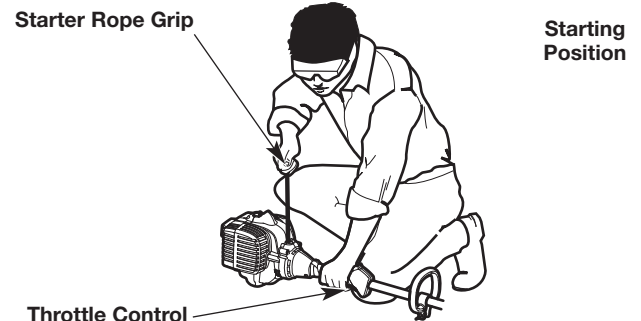

Fig. 11
**WARNING:** Avoid accidentally starting the unit. To avoid serious injury, the operator and the unit must be in a stable position when pulling the starter rope (Fig. 11).
3. Crouch in the starting position (Fig. 11).
5. Pull the starter rope with a controlled and steady motion **5 times** (Fig. 11).